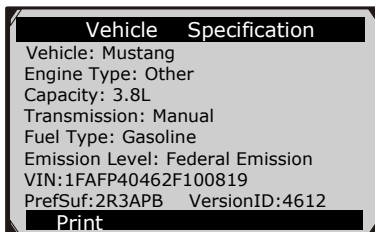

Figure 4.2
- 3) Review selected data on screen (Figure 4.2).